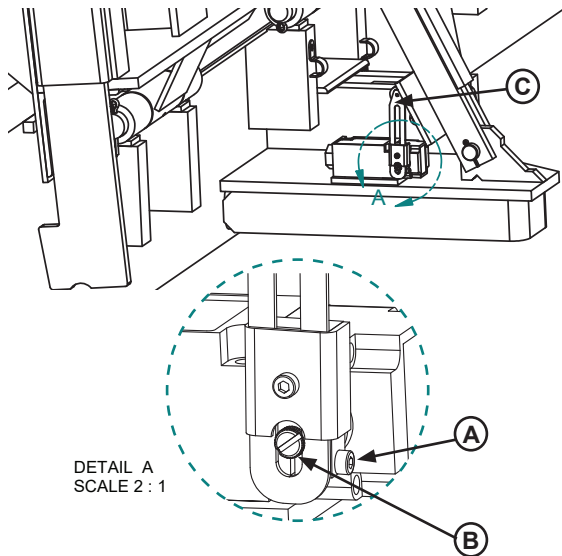

Figure 34
3. Loosen set screw (A) on switch arm. See **Figure 34**.
4. With roller arm (C) contacting storage prop, rotate adjustment screw (B) counter clockwise with a screwdriver, until a “click” noise is heard. This will close the switch contact while the roller is contacting the prop.
5. While holding adjustment screw (B), tighten set screw (A) on switch arm.